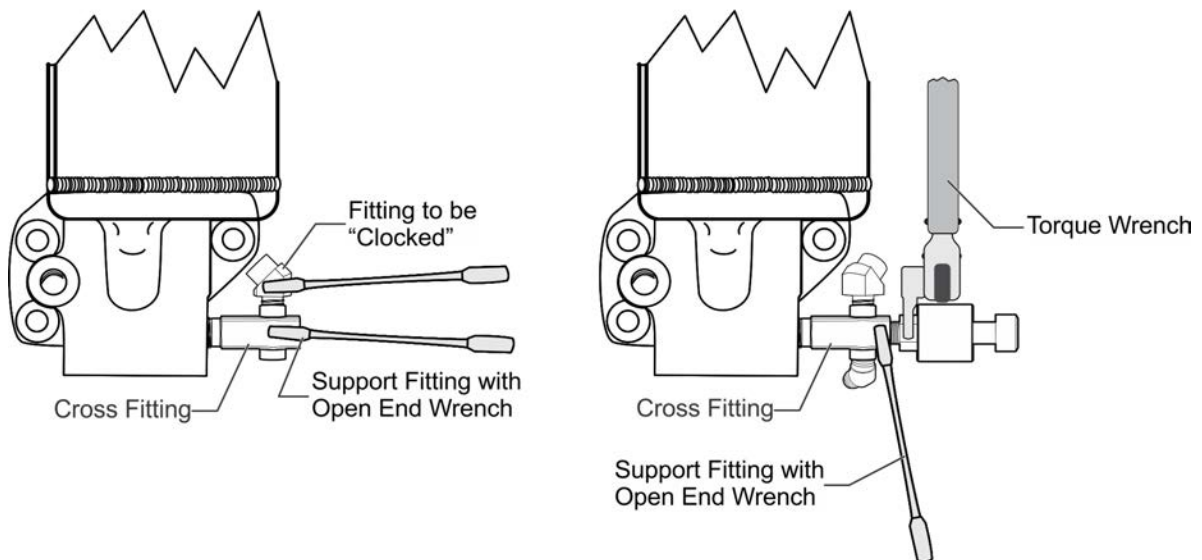

Figure 4. Hose and Tube Installation Support
- b. Support the last fitting in the assembly on components that contain multiple fittings coupled in one location (see Figure 4). DO NOT over-torque fittings.